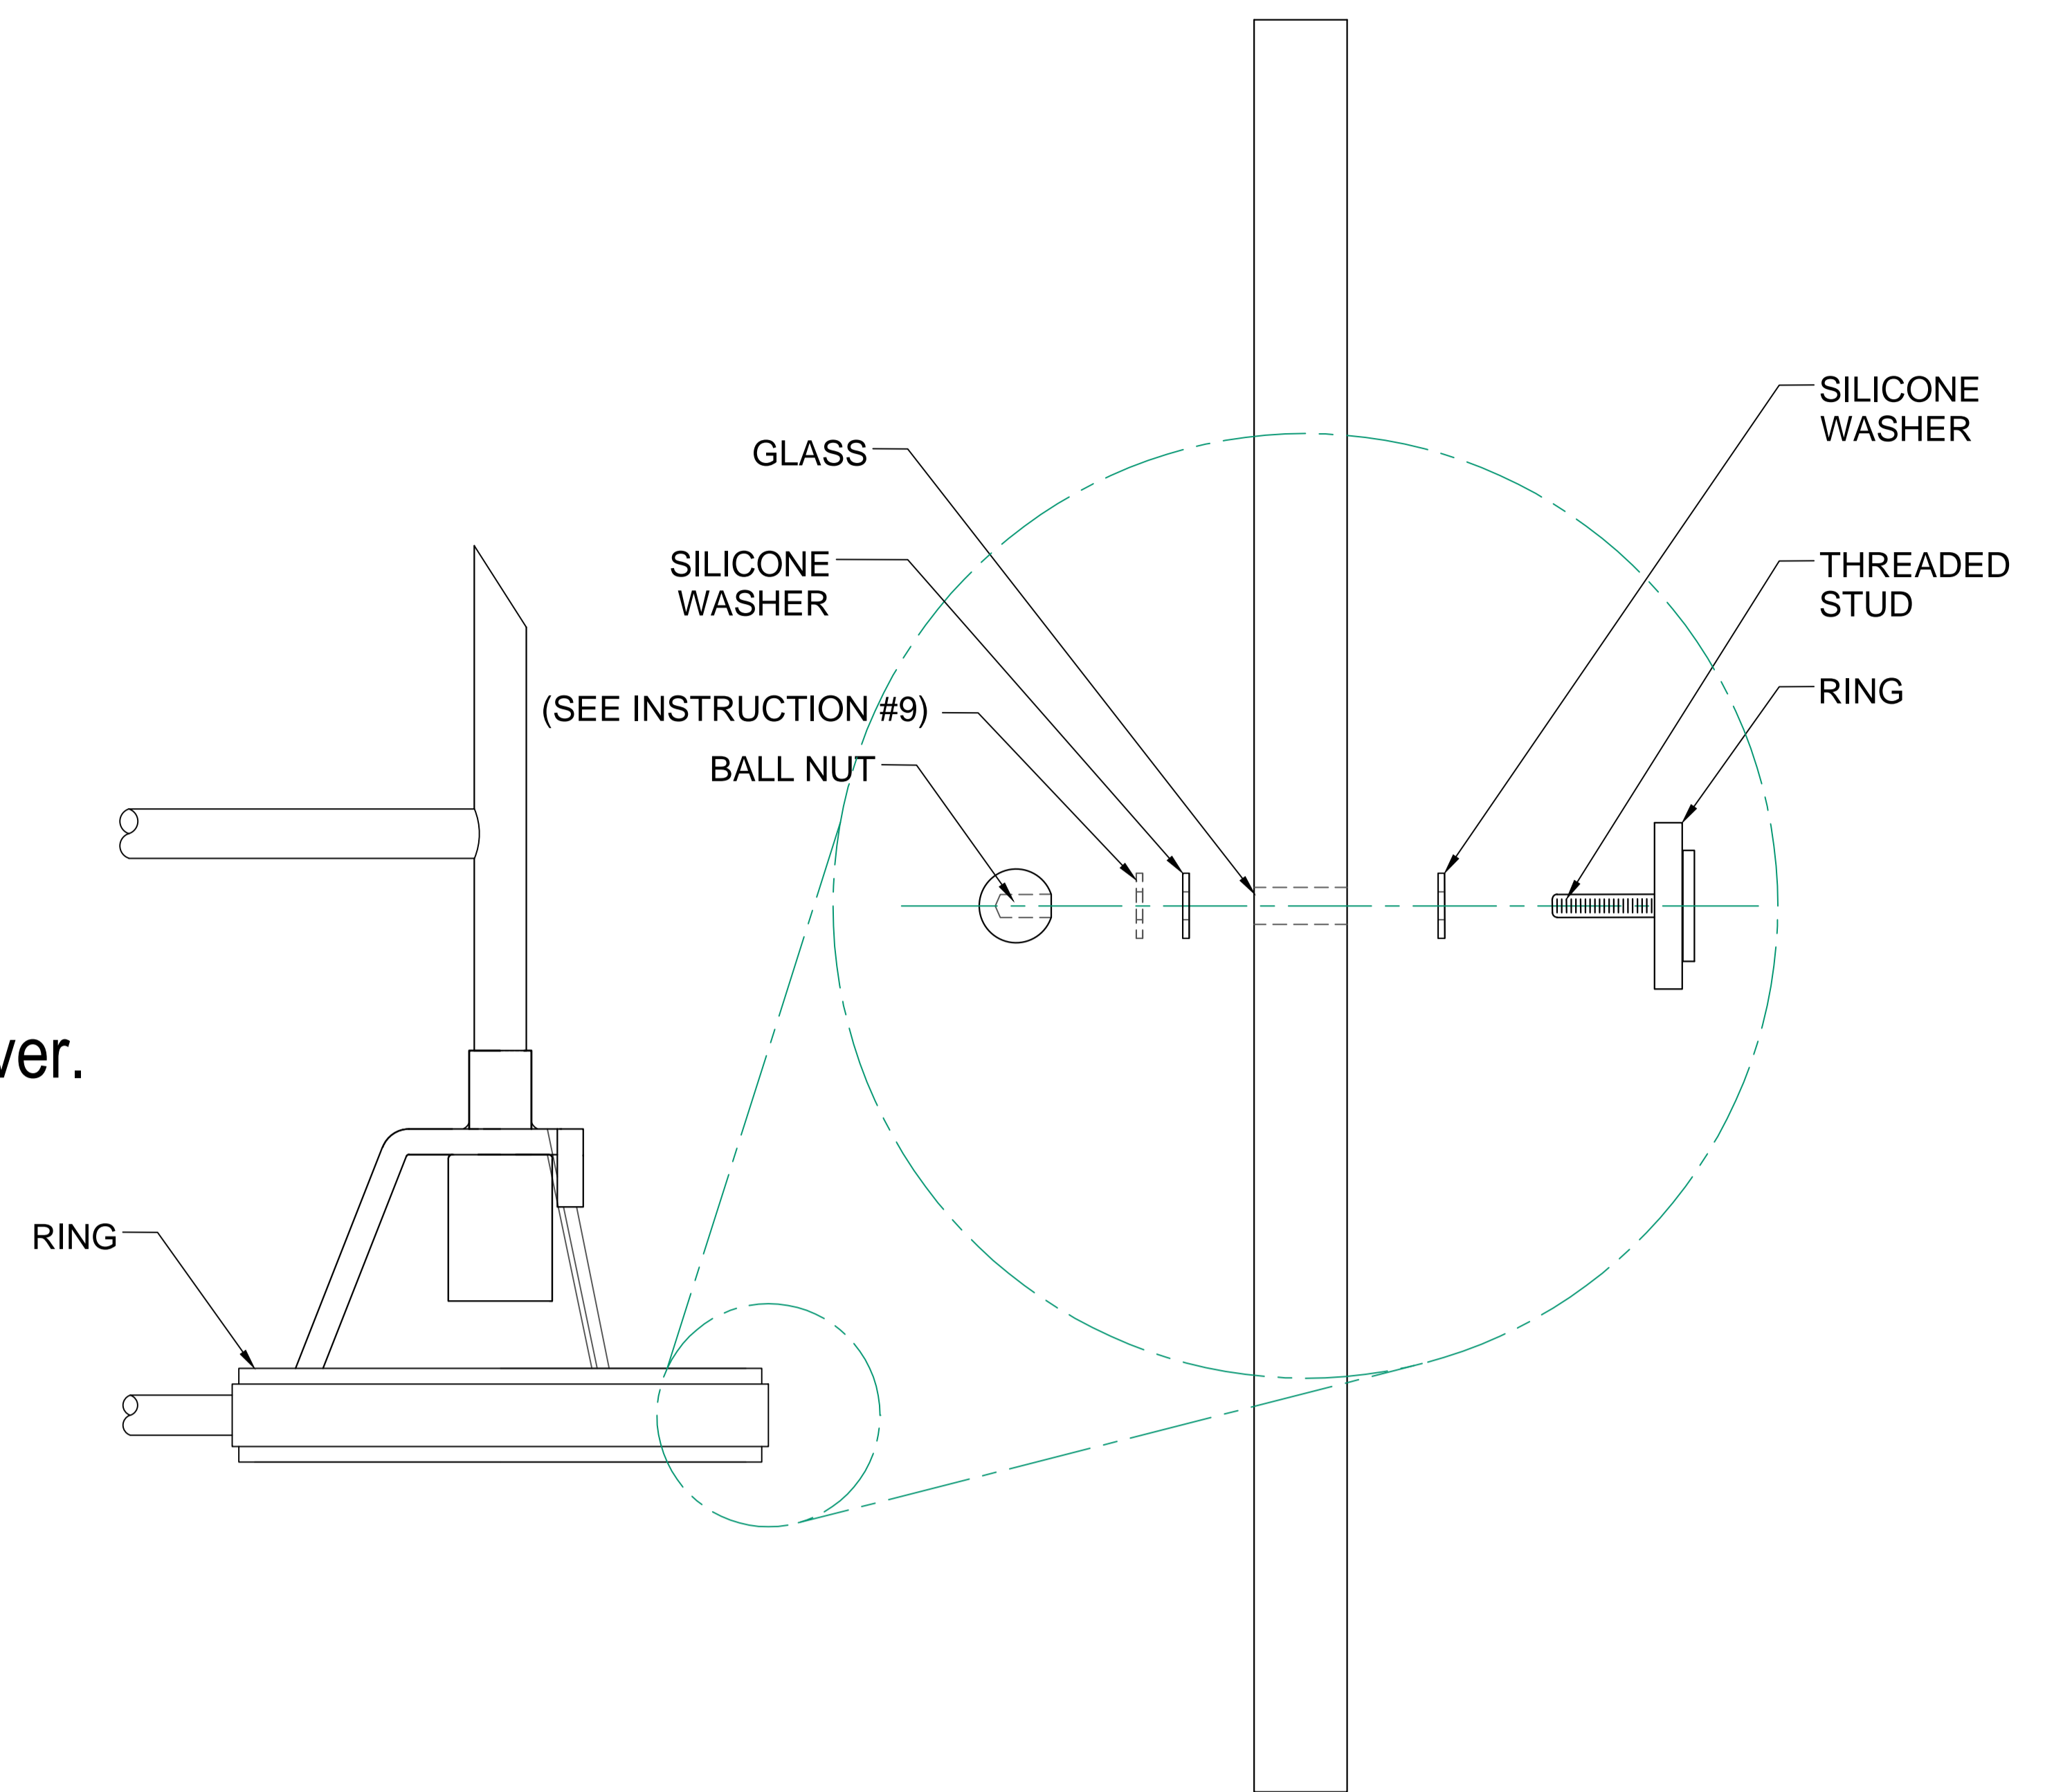

FIGURE-05
9. Install glass unto the ring and secure it with silicone washers and ballnuts. (See sequence on Figure-05) If the glass is thin and loose, add an additional silicone washer.